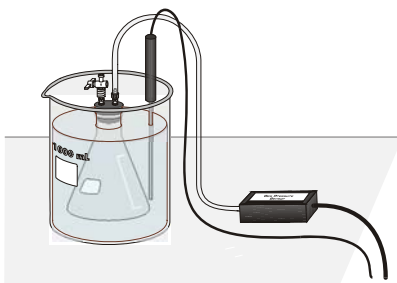

Figure 3
- d. Close the 2-way valve above the rubber stopper—do this by turning the valve handle so it is perpendicular with the valve stem itself (as shown in Figure 3). The air sample to be studied is now confined in the flask.
- a. Place the flask into the ice-water bath. Make sure the entire flask is covered (see Figure 3). Stir.